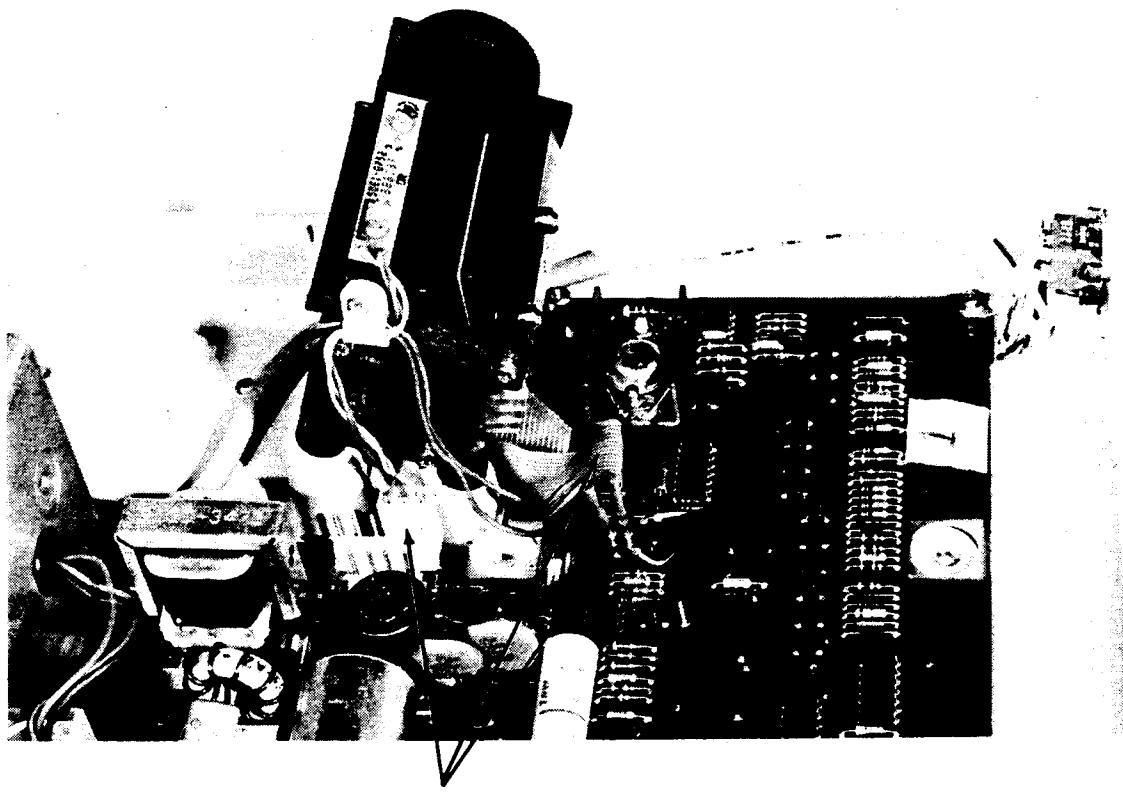

Figure 2-5. Removing the Printer
- Disconnect the 2 wires and the 2 connectors that connect the printer to the power supply assembly (see Figure 2-5).